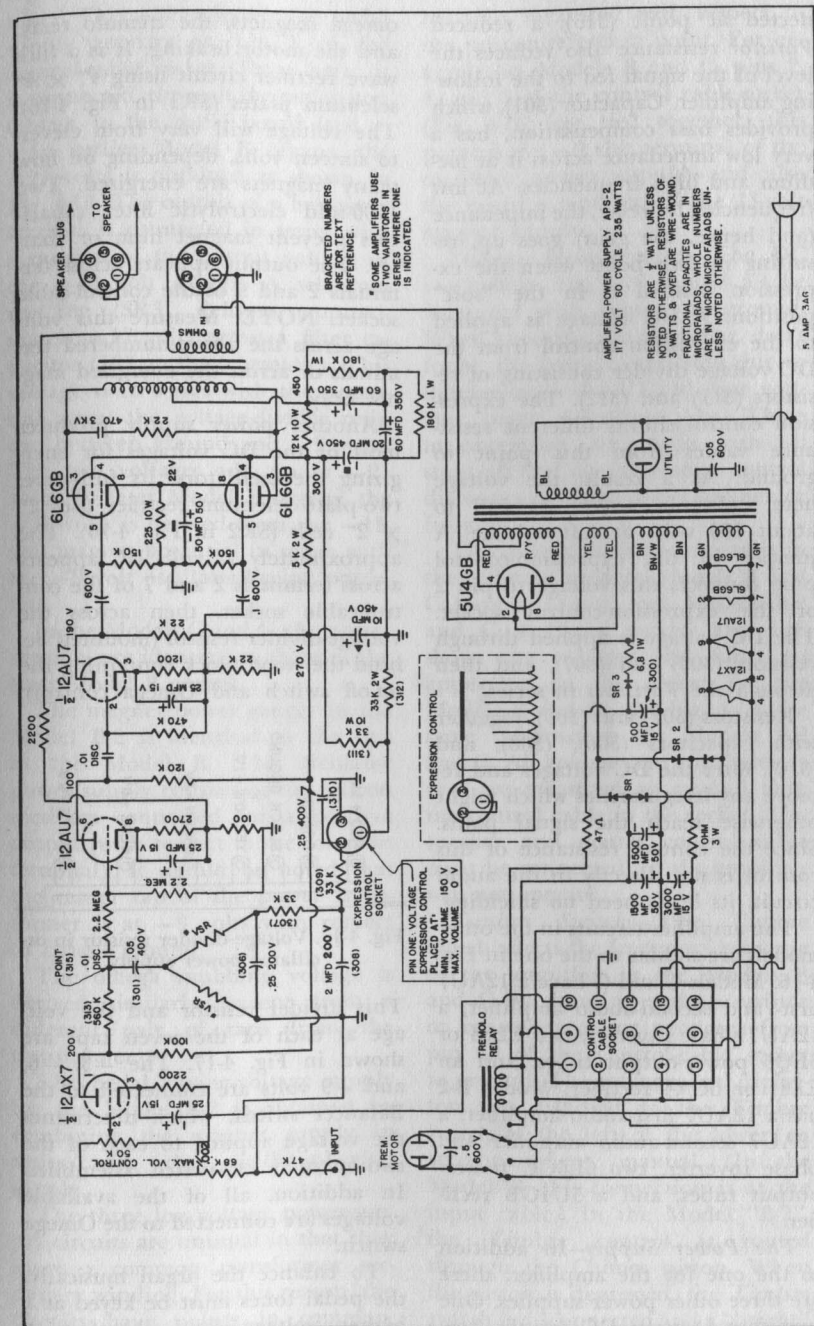

Fig. 4-16. Amplifier in power-supply circuit for the Model B organ.
The amplifier and power supply (shown schematically for the Model B in Fig. 4-16) are mounted on the same chassis, directly above the speaker enclosure.
The amplifier is conventional except for the expression control, which is a patented circuit using voltage-sensitive resistors called *Varistors* (abbreviated VSR on the schematic in Fig. 4-16). *Varistors*, which are made of specially prepared sili-
Stated another way, the amplifier gain is controlled by varying the resistance of one section of a series divider. In Fig. 4-16 the series divider consists of resistor (313), capacitor (301), and the parallel combination of the two *Varistors*. [It is a parallel combination because one *Varistor* is grounded and one terminal of the other *Varistor* is at ground potential for signal voltages because of bypass capacitor (306).] When the input to the following stage is con-
The amplifier circuits in the other models are similar to the one in Fig. 4-16. Models C and G have a 12AU7 first- and second-audio amplifier, a 12AU7 phase inverter, two EL84 or 6BQ5 power-output tubes, and an EZ81 or 6CA4 rectifier. Model B-2 has a 12AU7 first-audio amplifier, a 12AU7 second-audio amplifier and phase inverter, two 6L6GC power-output tubes, and a 5U4GB rectifier.
omega magnets, the tremolo relay, and the motor braking. It is a full-wave rectifier circuit using 4" × 4" selenium plates (SR1 in Fig. 4-16). The voltage will vary from eleven to sixteen volts, depending on how many magnets are energized. Two 1500-mfd electrolytic filter capacitors prevent magnet hum or chatter. The output appears across terminals 2 and 9 of the control-cable socket. NOTE: Measure this voltage across the above-numbered terminals or across the energized magnet only.
Another power supply produces most of the DC voltages for energizing the oscillators. Its full-wave, two-plate selenium rectifier uses 2" × 2" cells (SR2 in Fig. 4-16). The approximately 12 volts DC appears across terminals 2 and 7 of the control-cable socket, then across the voltage-divider resistor (mounted behind the wood block containing the on-off switch and Omega control).
In earlier Model B organs, the -21 volts is obtained as shown in Fig. 4-16. The output of a half-wave rectifier is connected in series with a portion of the output voltage of the -12 volt supply. A selenium rectifier (SR3) delivers approximately -12 volts across a filter capacitor (300 on the schematic). This voltage is in series with the potential across the voltage-divider resistor, between ground and -9 volts. The two voltages add up to -21 volts. In later Model B organs, the -21 volts is derived from the -13-volt magnet potential in series with the -9 volt oscillator-keying potential.
must be measured with respect to the proper reference point. For example, in Models B and C, pins 2, 4, and 5 of the control cable-socket (Fig. 4-16) are tied together; this point is the -9 volt terminal of the oscillator power supply—and also the positive terminal of the 13-volt magnet supply.
Voltage Measurements—The DC voltages in Fig. 4-16 should all be measured with respect to ground. When checking the amplifier, don't forget the normal variations due to differences in the VTVM, line voltage, parts tolerances, etc. These measurements are made with all stops off and the expression control disconnected from the amplifier or fully on.